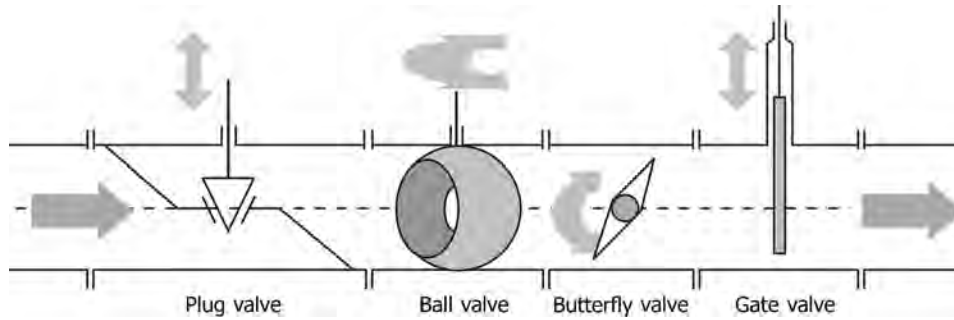

FIGURE 3.5 Important types of valves.
- Some important types of valves are illustrated in Figure 3.5.